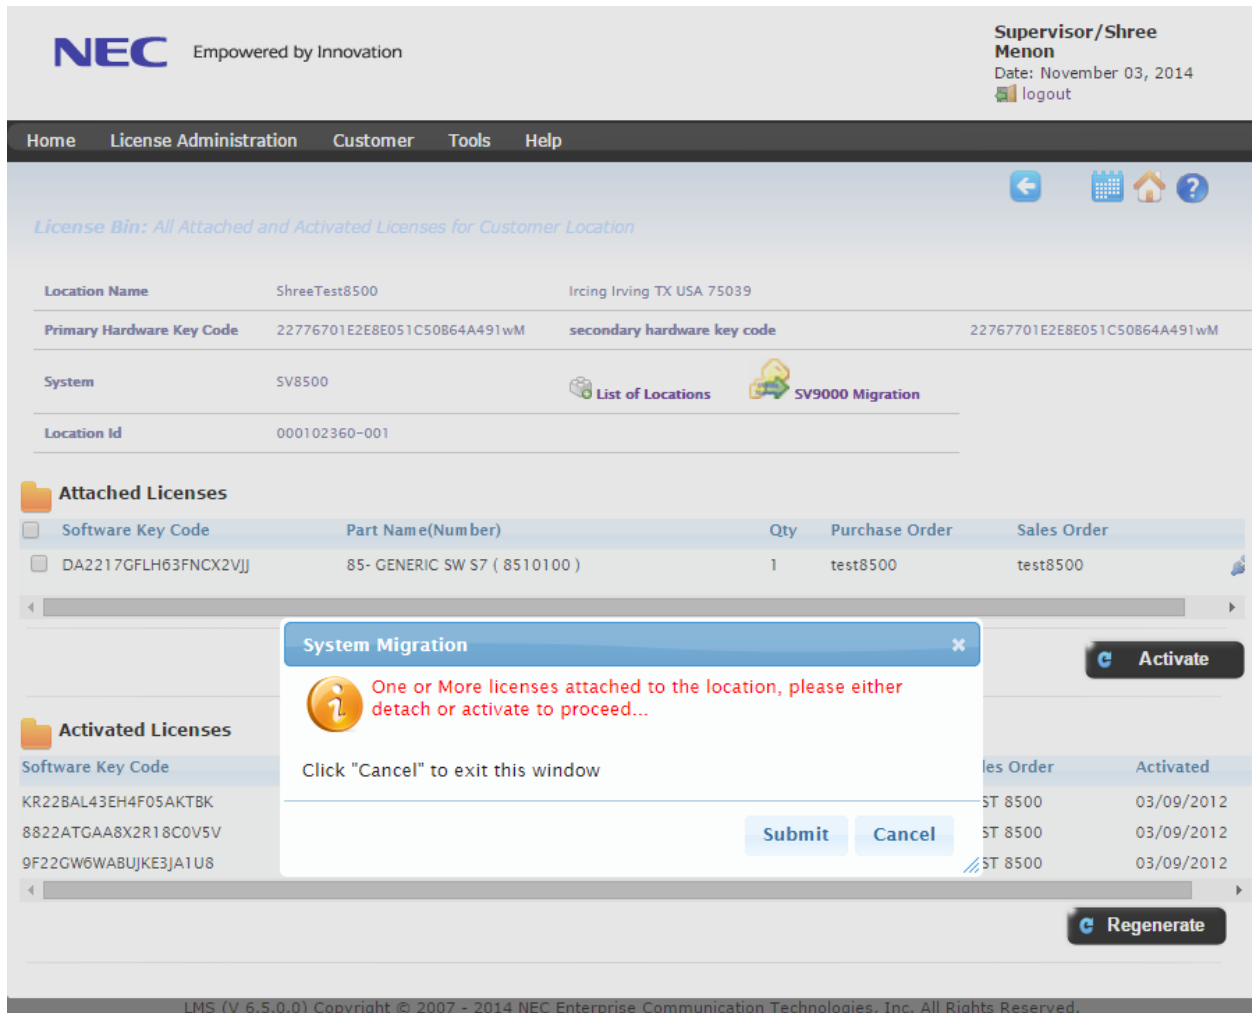

Figure 10
- ii. If the SV8500 location has one or more licenses attached while migrating, the existing location will display the message as shown in Figure 10. All licenses need to be detached before proceeding with migration.